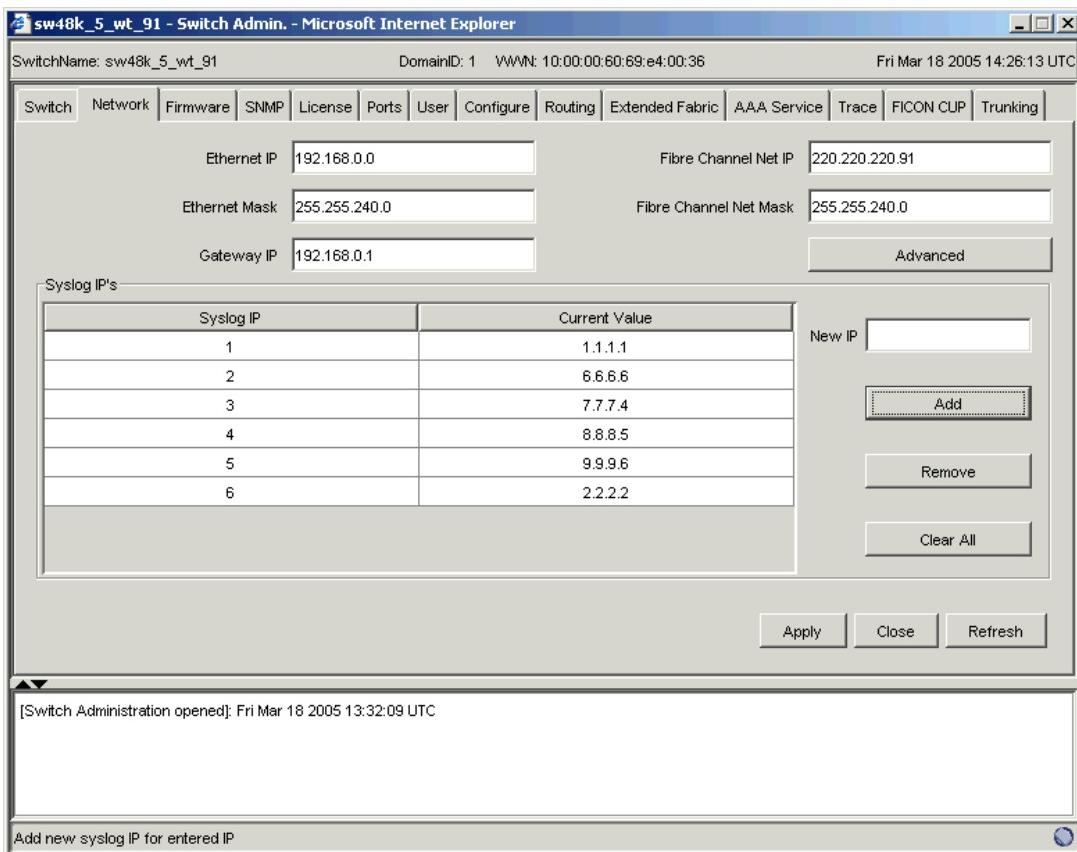

Figure 8 Network tab
2. Click the **Network** tab (see Figure 8).
2. Click the **Firmware** tab (see Figure 8 on page 38).